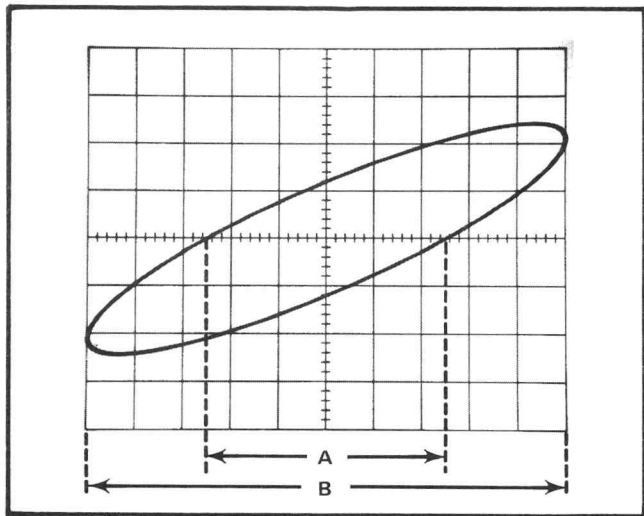

Fig. 7. Phase-difference measurement from an X-Y display.
3. Position the display to the center of the screen and adjust the CH 1 VOLTS/DIV switch to produce a display less than eight divisions vertically (Y). Reduce the horizontal (X) deflection to less than 10 divisions by reducing the amplitude of signal applied to the EXT HORIZ input connector.
4. Center the display in relation to the center graticule lines. Measure the distance A and B as shown in Fig. 7. Distance A is the horizontal measurement between the two points where the trace crosses the center horizontal line. Distance B is the maximum horizontal width of the display.
Example. To measure the phase of the display shown in Fig. 7 where A is 5 divisions and B is 10 divisions, use the formula: